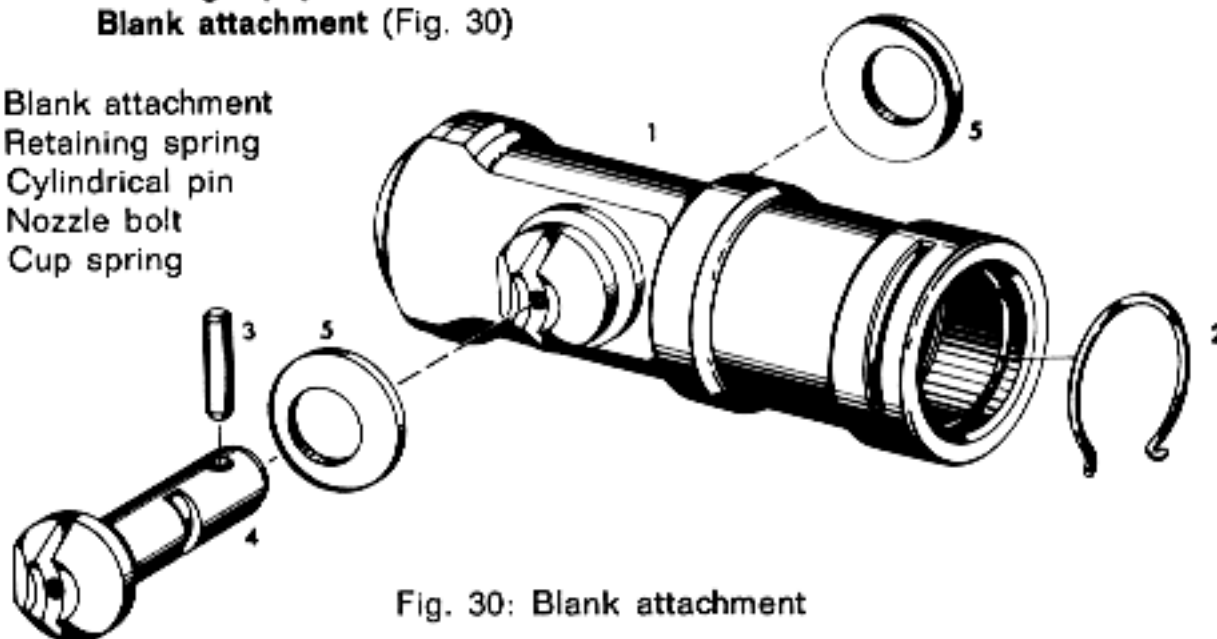

Fig. 30: Blank attachment
(1) Blank attachment (Fig. 30)